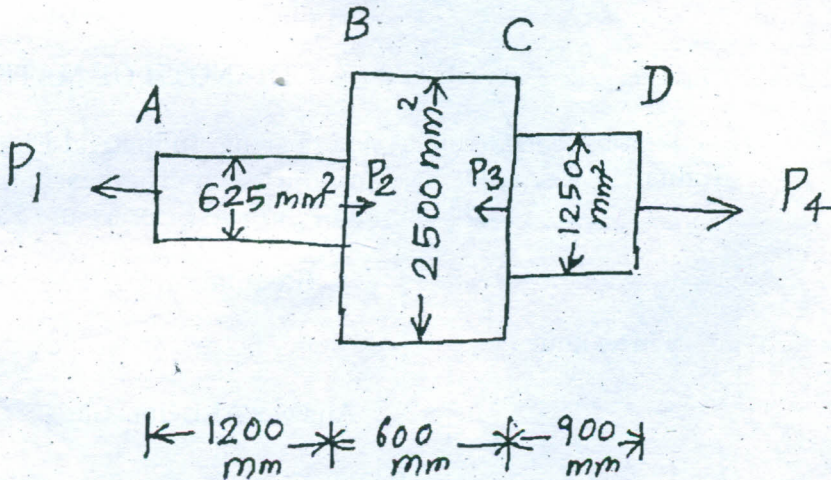

Fig. Q. 11(a)
11. (a) (i) Derive an expression for change in length of a circular bar with uniformly varying diameter and subjected to an axial tensile load 'P' (8)
- (ii) A member is subjected to point loads as shown in Fig. Q. 11(a). Calculate the force P, necessary for equilibrium if $P_1 = 45$ kN, $P_3 = 450$ kN and $P_4 = 130$ kN. Determine total elongation of the member, assuming the modulus of elasticity to be $E = 2.1 \times 10^5$ N/mm². (8)